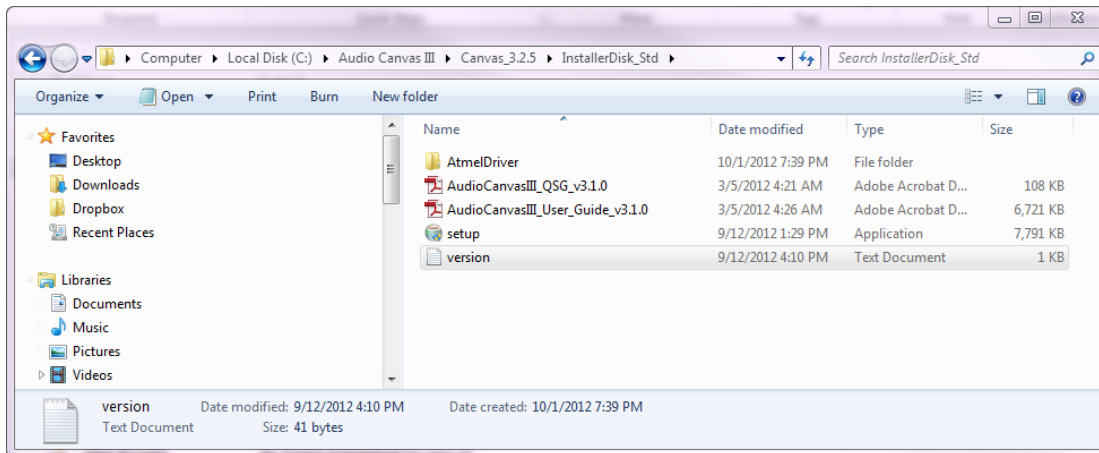
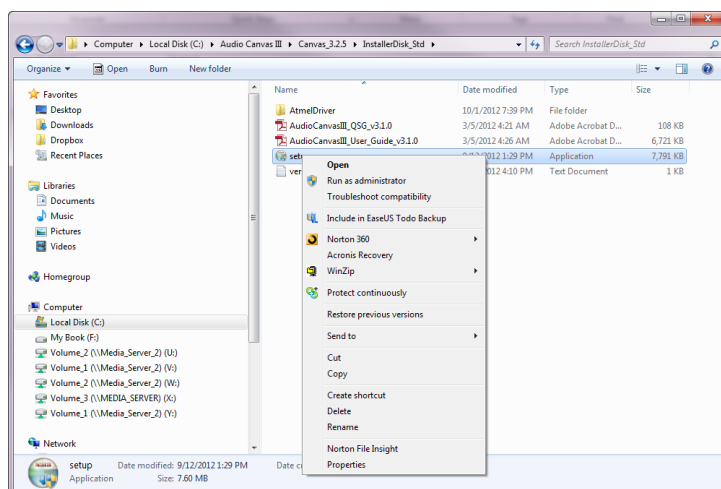

Figure A1: InstallerDisk_Std Folder Contents
Figure A2: Right-Click and Select “Run as Administrator”
3. From the Audio Canvas III Folder, locate the “Setup” program in the “InstallerDisk_Std” Folder as shown below in Figure A1. When installing under Windows 8 or Windows 10, right-click on the “Setup” program and select “Run as Administrator” as in Figure A2. If asked whether you wish to continue with the installation, simply select “Yes”.